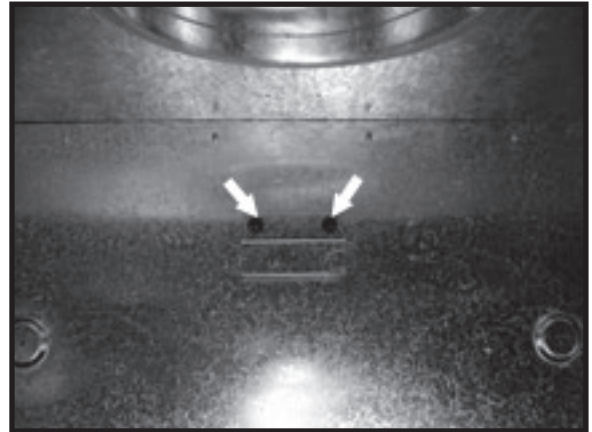

Figure 9.1
1. Look into fireplace opening and locate back panel retaining clip positioned against rear wall of fireplace. (Figure 9.1) Remove (2) screws attaching clip to rear wall and set clip and screws aside. Position rear panel against rear wall and reattach clip with (2) screws.
2. Locate left panel retaining clip and remove screws and set clip and screws aside. Position left panel against left wall and reattach clip with (2) screws.